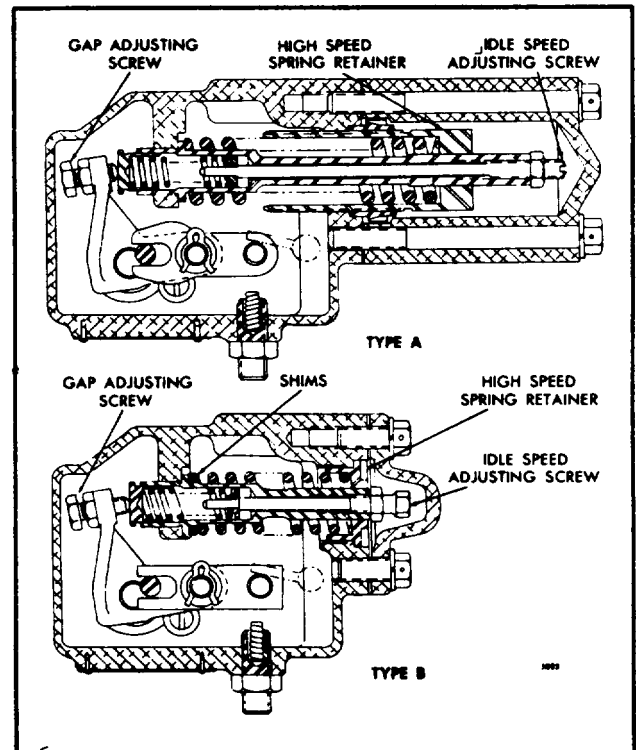

Fig. 6 - Governor spring Assemblies
TYPE A GOVERNOR SPRINGS (Fig. 6):
TYPE B GOVERNOR SPRINGS (Fig. 6):
- b. Remove the high-speed spring from the high-speed spring plunger and add or remove shims (Fig. 6) as required to establish the desired engine no-load speed.